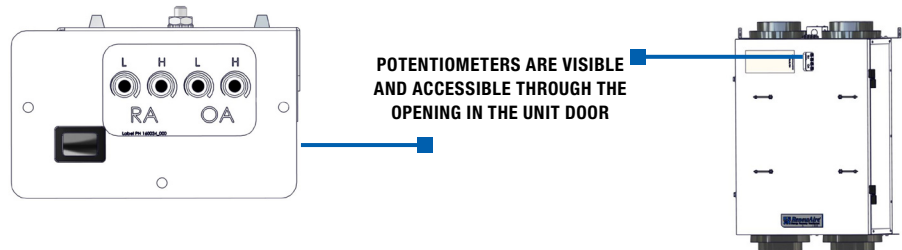

FIGURE 4.10.1 FAN SPEED CONTROL POTENTIOMETERS
- Take a differential pressure reading for the OA airstream by installing the “high” pressure side (+) of the measuring device to the OA port and the “low” pressure side (-) to the SA port. Compare the pressure drop to the chart in section 5.2.1 to obtain the CFM. Adjust the fan speed potentiometer (See figure 4.10.1) to obtain the desired CFM. Enter the CFM information in the box in section 5.2.2.
- Take a differential pressure reading for the RA airstream by installing the “high” pressure side (+) of the measuring device to the RA port and the “low” pressure side (-) to the EA port. Compare the pressure drop to the chart in section 5.2.1 to obtain the CFM. Adjust the fan speed potentiometer (See figure 4.10.1) to obtain the desired CFM. Enter the CFM information in the box in section 5.2.2.
- After adjusting the potentiometers, take additional readings as needed to verify that fan speed settings are correct. See Figure 4.10.1.